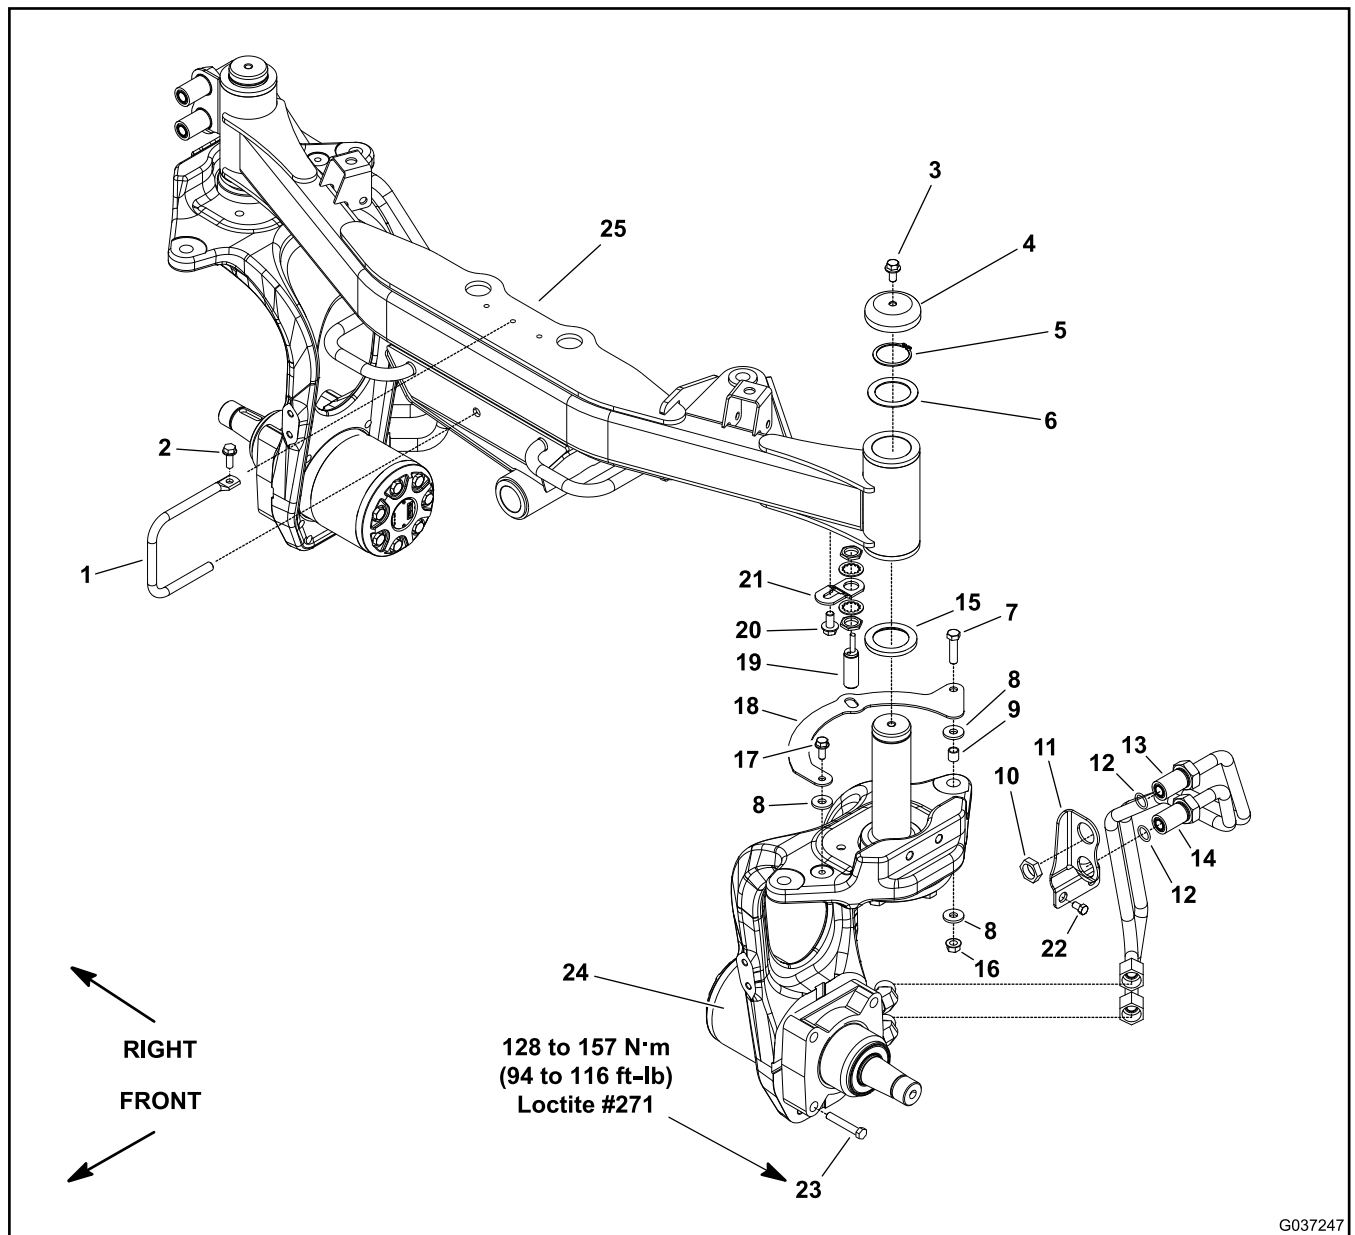

Figure 272
Note: The front steering fork assemblies of your Groundsmaster include a wheel motor. The left front fork (Figure 272) also includes a steering home sensor used by the TEC to determine when the front wheel is turned.
- A. Remove the 2 bolts (item 22 in Figure 272) that secure the bulkhead bracket to the steering fork assembly, and remove the bulkhead bracket.
- B. Remove the 4 bolts (item 23 in Figure 272) that secure the wheel motor to the steering fork. Slide the wheel motor assembly (with the wheel hub and hydraulic lines attached) from the steering fork. Carefully, position the wheel motor away from the steering fork and support the wheel motor. Do not allow the wheel motor to hang from the hydraulic lines.
8. Remove the flange-head screw (item 3 in Figure 272), spindle cap, and retaining ring that secure the steering fork shaft into the axle tube. Slide the steering fork out of the axle tube.
10. If necessary, remove the flange nut (item 16 in Figure 272), 3 washers, spacer, bolt, and flange-head screw that secures the target bracket to the steering fork assembly.
3. If removed, secure the target bracket to the steering fork assembly with the flange nut (item 16 in Figure 272), 3 washers, spacer, bolt, and flange-head screw.
4. Install the lower 6.3 mm (0.25 inch) thrust washer (item 15 in Figure 272) onto the steering fork spindle and slide the spindle up through the axle tube.
6. Place the spindle cap (item 4 in Figure 272) to the top of the steering fork spindle and secure the spindle cap with the flange-head screw.
- C. Secure the bulkhead bracket (item 11 in Figure 272) to the steering fork with the 2 bolts.